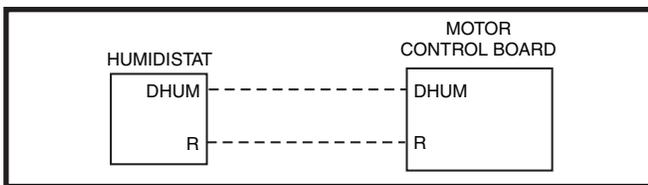

Figure 10. DHUM Wiring Configuration
1. If the room thermostat incorporates a humidity sensor and **DHUM** output, connect the **DHUM** on the thermostat to the **D** terminal on the motor control board. See Figure 10.